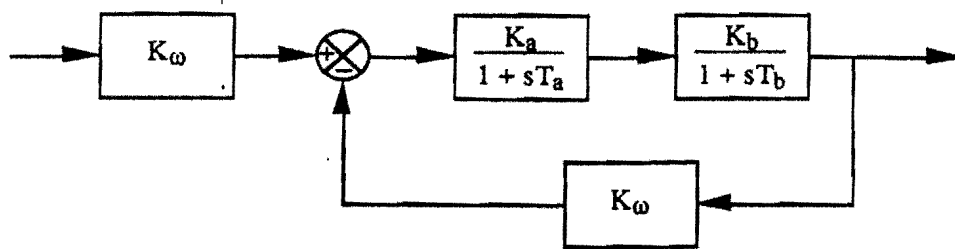

Fig.1
1. A simple speed-control system is shown in figure 1.